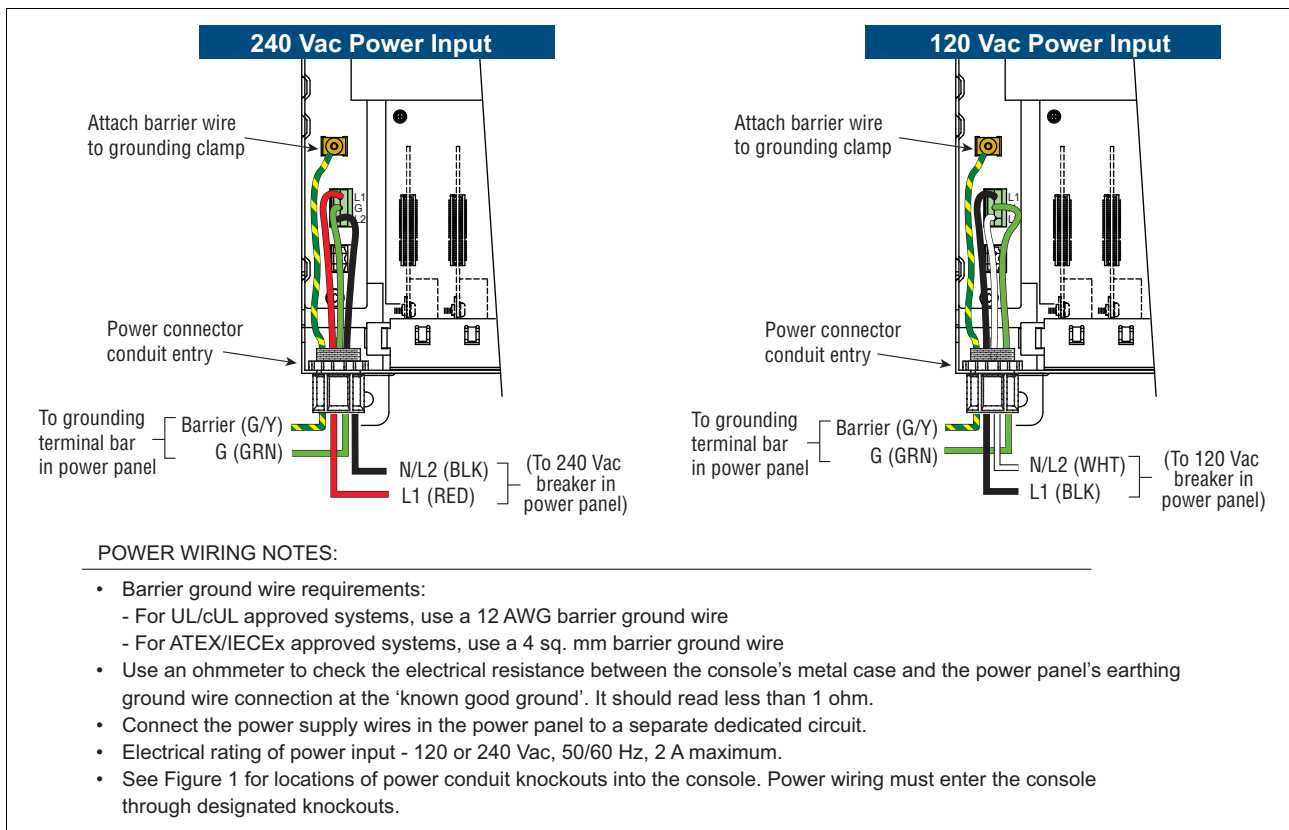

Figure 2. Wiring AC Power to the TLS-450PLUS Console
4. Connect the input 120 or 240 Vac power wires as shown in Figure 2.